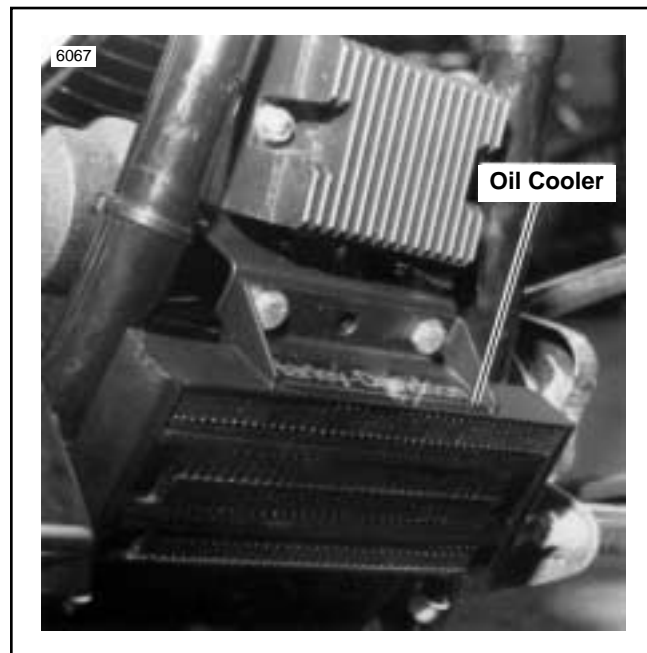

Figure 4. Oil Cooler Bracket and Oil Cooler
2. See Figure 4. Place bracket Part No. 62408-87A in position under regulator. Install bracket and regulator using original bolts, starwashers and locknuts.